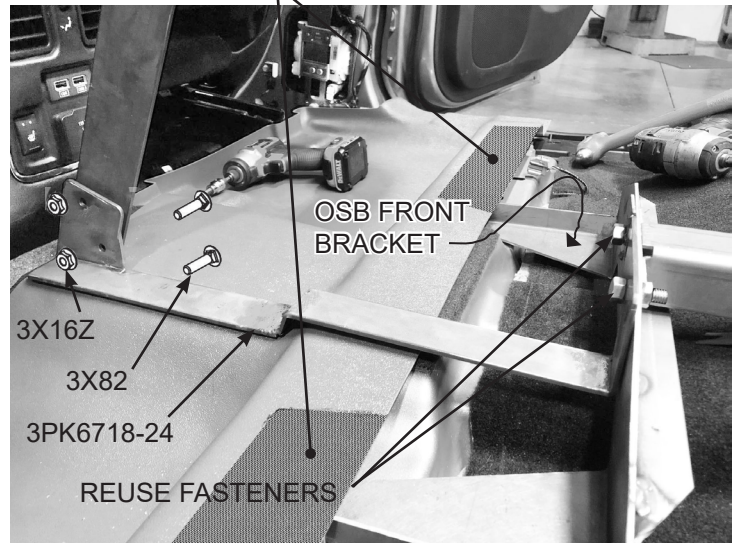

Fig. 5
- A. Fasten center floor bracket 3PK6718-24 to OSB front bracket re-using existing fasteners. (Fig. 5)
- B. Align center bracket (3PK6718-24) holes with center bracket (3PK6718-21) and fasten using bolts (3X82) and whiz nuts (3X16Z). (Fig. 5)